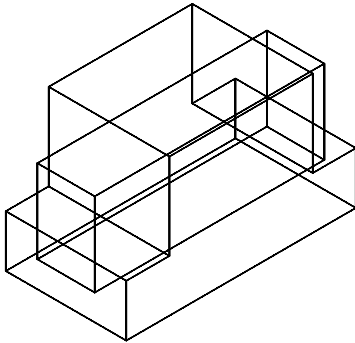

Figure 26-54 Model before subtraction
16. Enter **9** at the Command prompt and press ENTER; the box is moved, as shown in Figure 26-54.